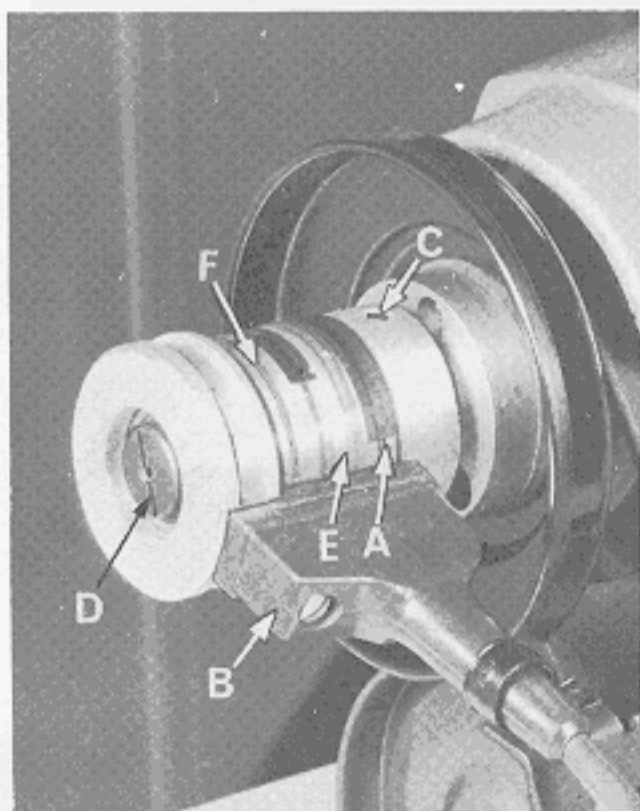

Fig. 33
- (b) At this time the brass contact of the left band (A, Fig. 33) should be flush with the front edge of the brush holder (B). To make this adjustment position needle bar and deflector plate as described in step (a), then loosen set screws (C) in synchronizer and move as required.
- (c) Down position should be a point at which the hook point has passed the center line of the needle by $5/64$ of an inch (1.98 mm) "loop taking time". If not, with power off, rotate handwheel to this point. Then loosen screw (D) at end of synchronizer and rotate third band from left (E) in operating direction until its brush is in the middle of the black plastic band.